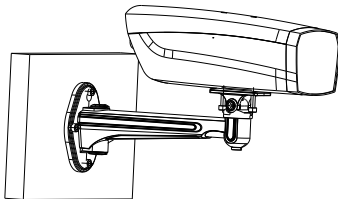

Figure 2-6 Fix the Camera Housing
9. Attach the camera with the housing to the wall mount and tighten the fix screw to fix the camera. As shown in Figure 2-6.